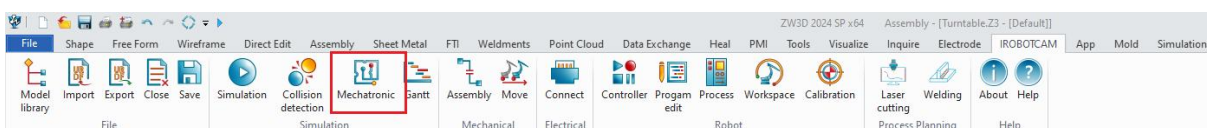

Figure 13-8: Mechatronic button
- Click the "Mechatronic" button.(Figure 13-8)